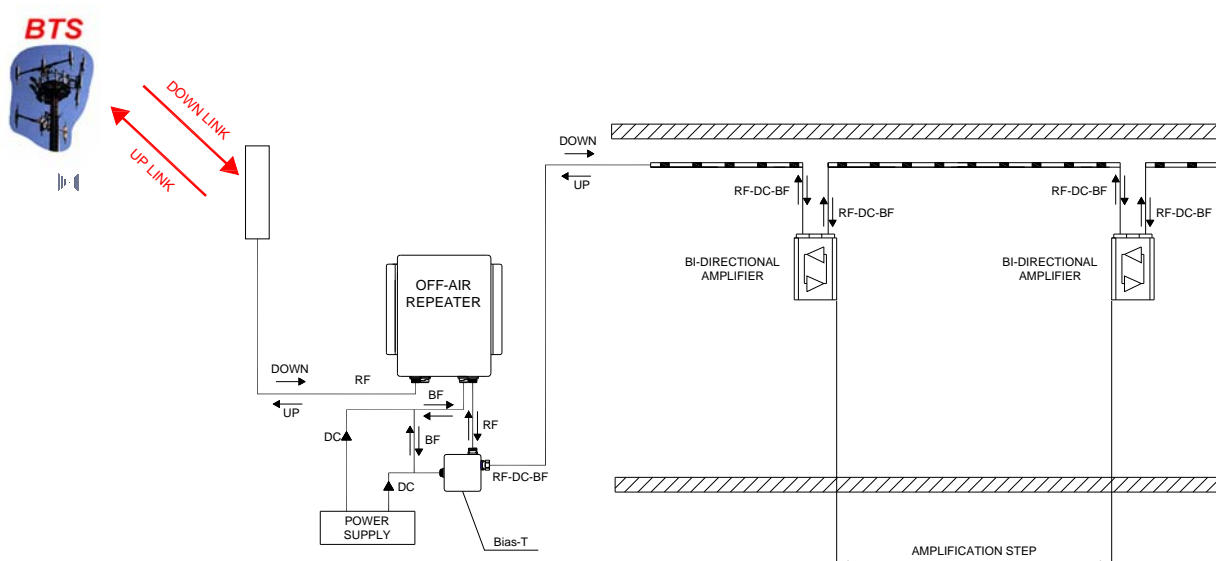

FIGURE 5
a) By an Off-Air Repeater at the entrance to the tunnel, connected to a cascade of bi-directional amplifiers inside the tunnel which re-generate the signal with amplification steps at a distance of 250mt. ÷ 400mt. from one another (Figure 5).